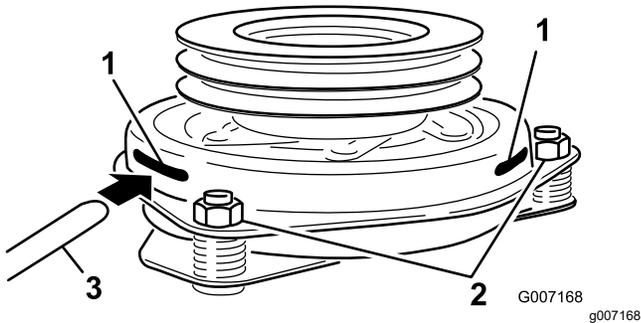

Figure 82
9. Insert a 0.381 to 0.533 mm (0.015 to 0.021 inch) feeler gauge through an inspection slot in the side of the assembly (Figure 82).
10. Tighten the locknuts until there is slight binding on the feeler gauge but it can be moved easily within the air gap (Figure 82).